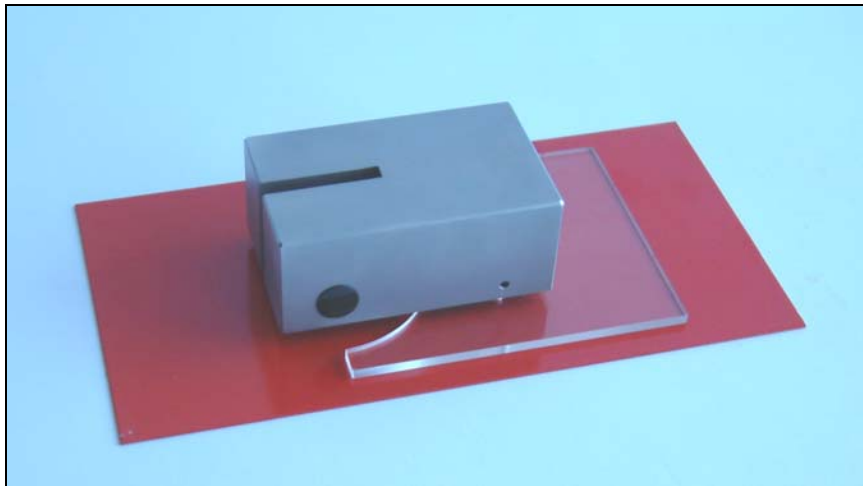

Figure 5. Indenting tool and template on a specimen
3. Rotate the indenting tool **very gently** until the bevelled disc touches the surface of the specimen (Figure 5). As soon as the disc touches the specimen, start a stop watch.